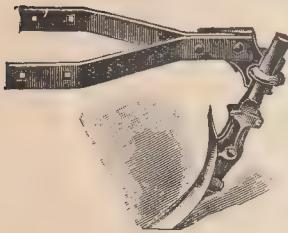

Fig. 116
**Attachments.**—The following attachments may be applied to this tool: Fallow Attachment, Fig. 116, page 40, price Plows, Fig. 117, page 40, price per pair, Disc. Fig. 118, page 40, price per pair. Spring Hoes, Fig. 110, page 40, price per set of 8.
**Attachments.**—The following attachments are applicable to this tool: Fallow Tooth, shown in Fig. 116, page 40, price . . . . . Plows, Fig. 117, page 40, price per pair . . . . . Disc, Fig. 118, page 40, price per pair, . . . . . Spring Hoes, Fig. 119, per set of 6, . . . . . When the No. 62 Riding Cultivator is furnished with Spring Hoes (6) instead of break pin standards, the additional cost is
We furnish this tool, when ordered, with **Fallow Tooth Attachment**, as shown in Fig. 116, page 40. Price, Equipped with *Spring Hoes*, Fig. 110, page 40. Add to list,
**Fig. 116.** This Fallow Tooth Attachment will fit our Nos. 60, 61, 62, 50, 51 and 52, "IRON AGE" Riding Cultivators, and when applied these tools are perfect Fallow Cultivators. They are used largely in orchards and in preparing land in the Fall for the sowing of grain. **Price,**
**Attachments.**—Fallow tooth similar to Fig. 116, page 40; price Plows, Fig. 117, page 40; price per pair Disc, Fig. 118; price (order as No. 1). Spring Hoes, Fig. 110, page 40; price per set of eight set of six